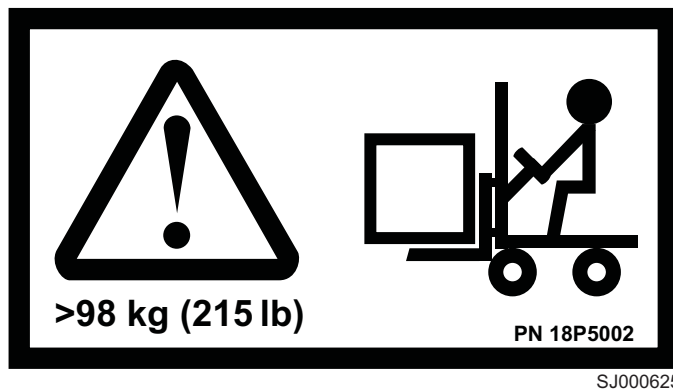

Figure 5. Heavy load label
5. Verify that the heavy load label shown in Figure 5 is installed on the back of the switch.